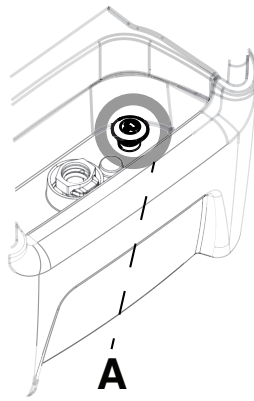

Figure 32 – Drain plug
21. Pull up on the controller drain plug (Figure 32) to open the drain.